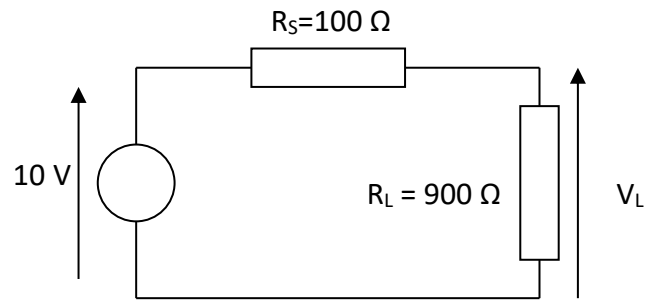

Fig. 1 Potential divider circuit
**Theory** — Consider the circuit shown in Fig. 1, consisting of two resistors in series connected to a 10 V DC power supply. Determine the current flowing in the circuit and the voltage across the load resistor,  $V_L$ .